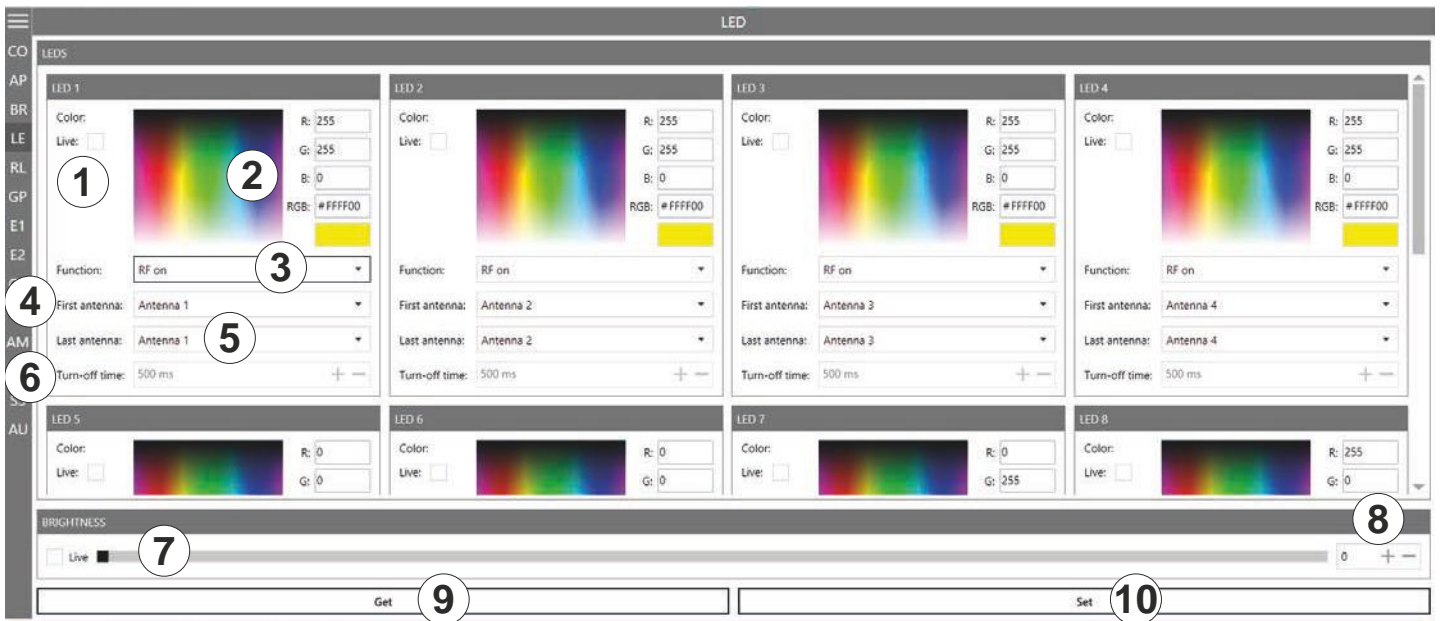

Fig. 41: LED
②		shows RGB values
③	Function	selects between the functions described in Selecting Functions , p. 79
④	First antenna	the first antenna for the selected function
⑤	Last antenna	the last antenna for the selected function
⑥	Turn-off time	sets the time for how long LED is on for the selected function
⑦	Brightness (live)	changes the LED brightness for all active LEDs (between 0 (auto brightness determined by the integrated light sensor) and 100) ▶ Move the brightness position along the bar to change the brightness of the LED. ⇒ The number at ⑧ changes.
⑧		changes the LED brightness (between 0 and 100) ▶ Click + or – to change the brightness of the LED.
⑨	Get	shows the current settings for all LEDs
⑩	Set	sets the new settings for all LEDs for which the settings have been altered
► Click on the arrow (③ in Fig. 41, p. 78) to select between the following functions: